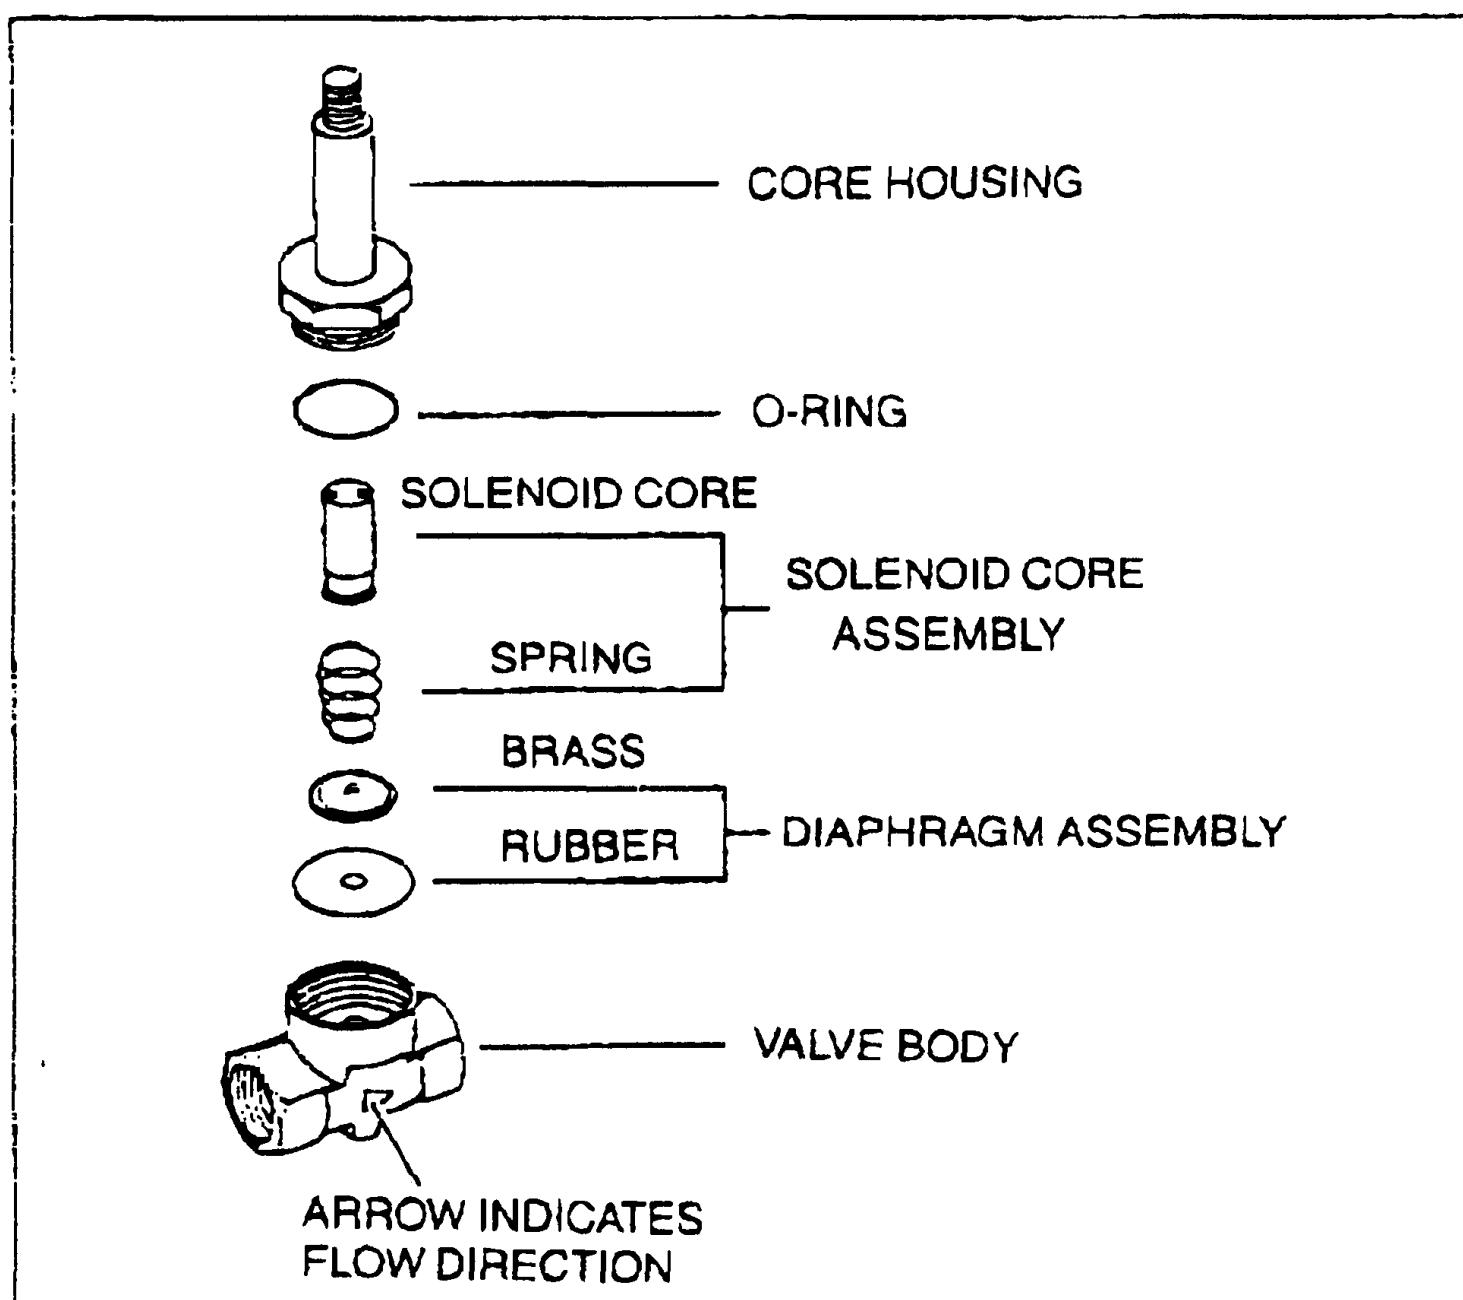

Figure 2. EXPLODED VIEW OF SOLENOID AND DIAPHRAGM ASSEMBLIES
The ADV will operate when installed in any position, but be sure the flow direction is the same as the direction indicated by the arrow on the valve body (see Figure 2).
10. Remove the solenoid core assembly and diaphragm assembly (refer to Figure 2). Clean or replace diaphragm as required.